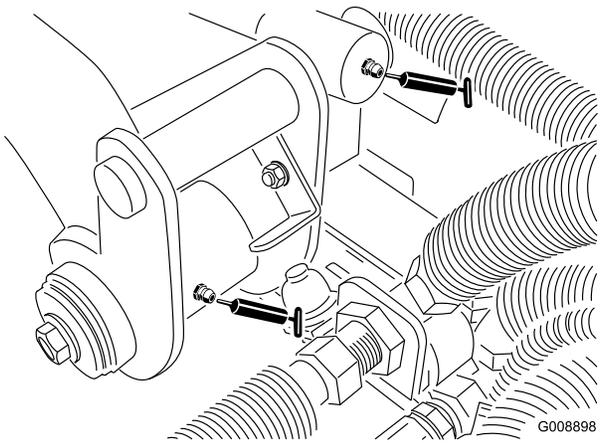

Figure 32
- 2 rear lift-arm pivots and lift cylinder (Figure 32)